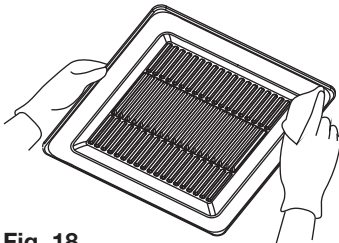

Fig. 18
2. Clean grille. Do not put into hot water. Use non-abrasive kitchen detergent, wipe dry with clean cloth. See Fig. 18